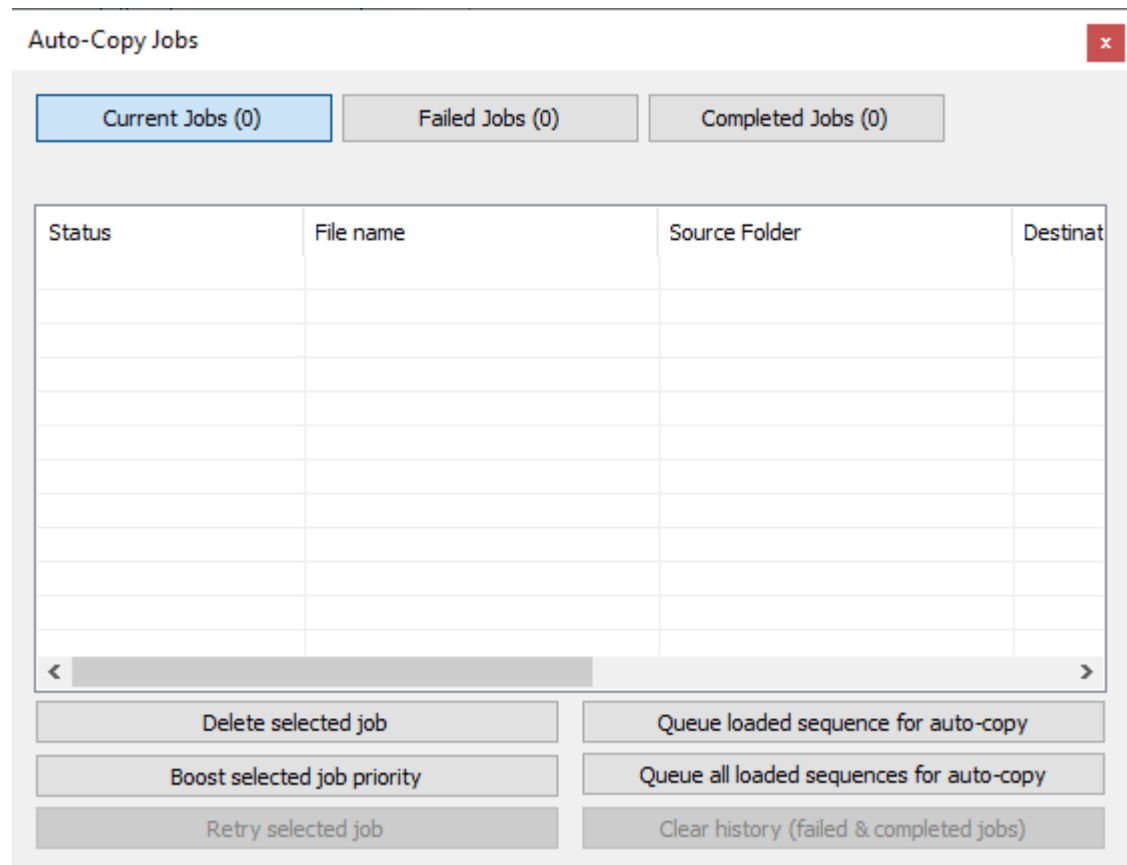

Figure 10-1: Output Control Manager dialog
1. Select the Disk Benchmarking tool button. The utility dialog opens. See Figure 10-1.